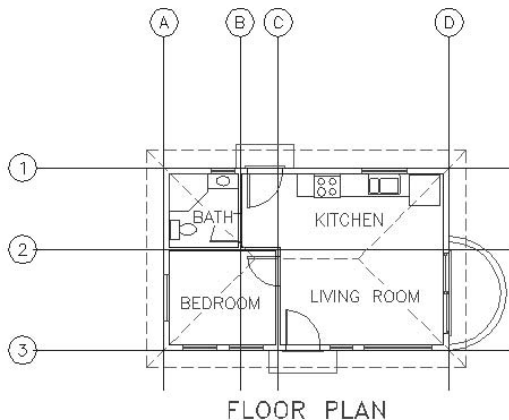

FIGURE B.6: The grid with all symbols inserted
11. Continue repeating steps 7 through 9, but select the grid-h block for the three grid symbols that run down the left side of the floor plan. The results should look like Figure B.6.